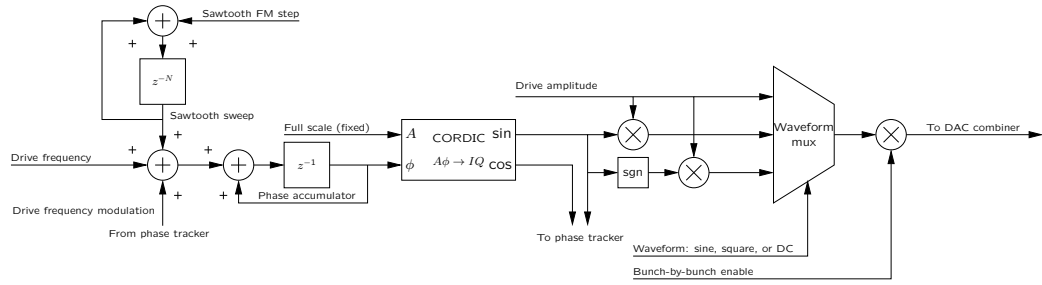

Figure 15: Drive source block diagram
Three independent drive sources are available in iGp12-592F FPGA, 0, 1, and 2. Each source is based on an numerically controlled oscillator (NCO) with sawtooth frequency modulation (FM) capability and bunch-by-bunch enable. Four output waveform types are supported: sinusoidal, square, triangular, and direct current (DC). Block diagram of a drive source is shown in Figure 15.